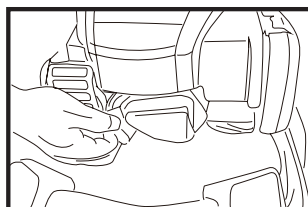

Fig. 14
- Remove the spark plug cover (Fig. 14).